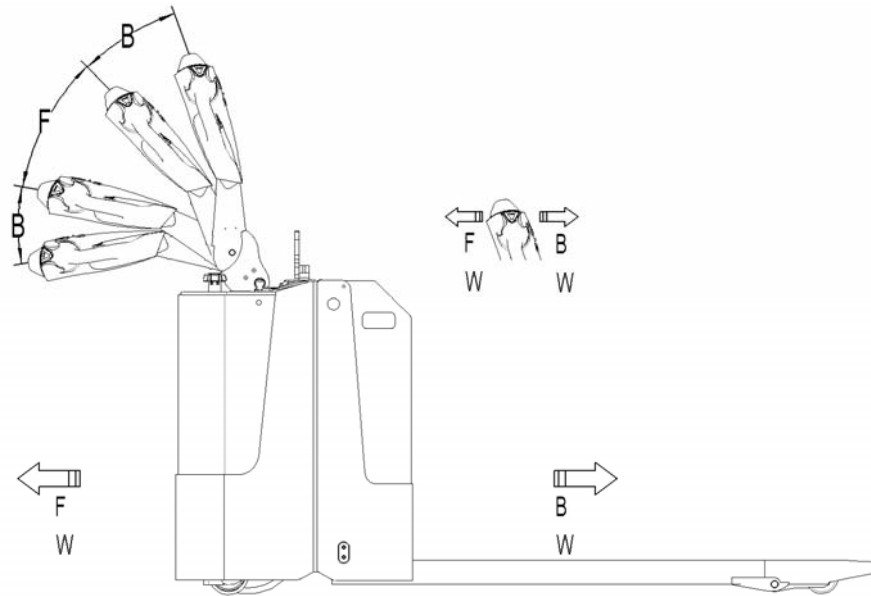

Fig. 9: Operating direction
After starting the truck by turning on the key switch (7), move the tiller to the operating zone ('F', fig.9).
Turn the accelerator button to the desired direction forward 'Fw.' or backwards Bw.' (fig. 9).